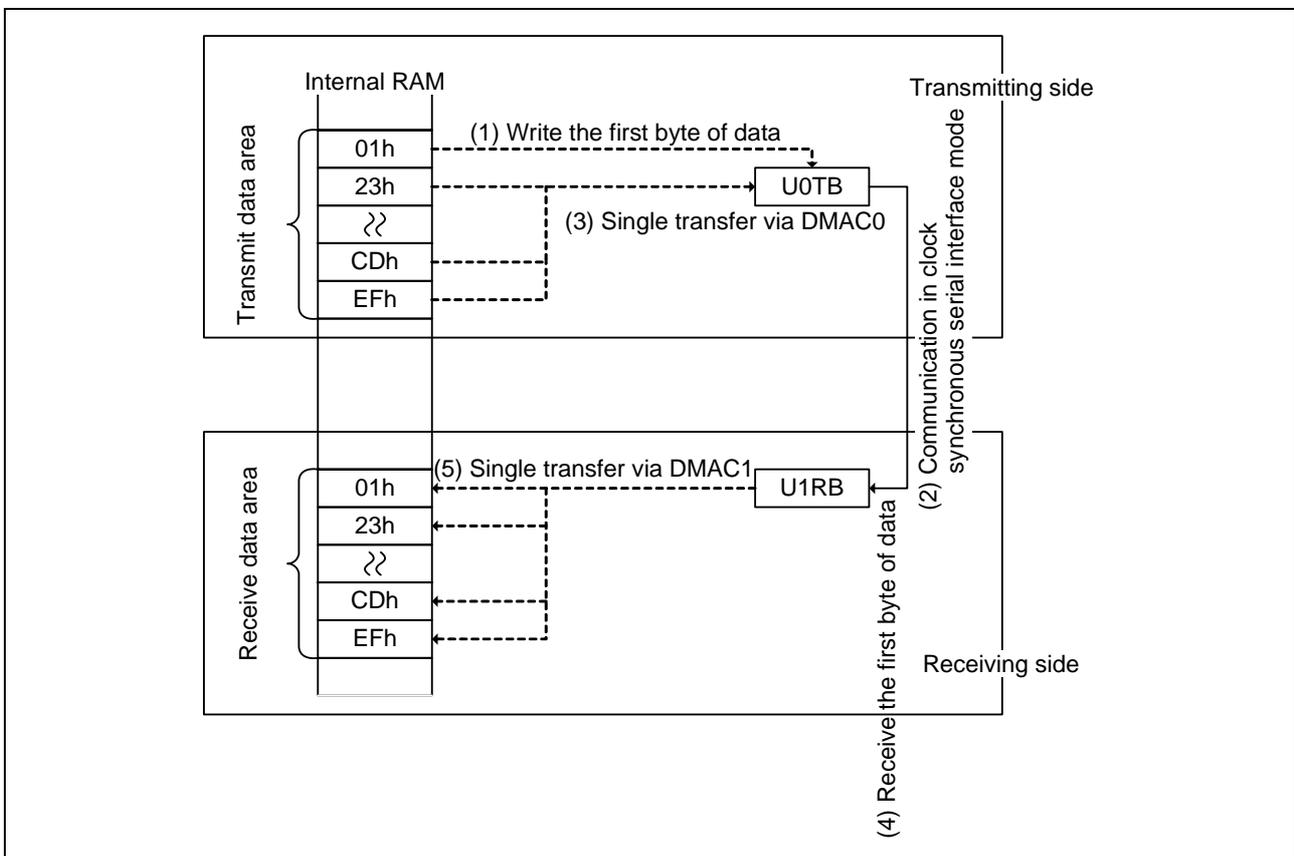

Figure 3.2 DMAC and UART Operation
In this example, DMAC and UART are used to transfer 8 bytes of data (see **Figure 3.2**). Numbers in parenthesis ((1) to (5)) indicate the order of the data transfer.
- (1) Write the first byte of data to be transmitted to the UART0 transmit buffer register.
- (2) Data written to the UART0 transmit buffer register is transmitted in clock synchronous serial interface mode through the TXD0 pin. When the first bit of data is transmitted, a UART0 transmit interrupt request is generated.
- (3) When a UART0 transmit interrupt request is generated, DMA0 reads the transmit data in the internal RAM address (specified by the DMA0 source address register), and writes it to the UART0 transmit buffer register (specified by the DMA0 destination address register). At the same time, the value in the DMA0 source address register is incremented, and the value in the DMA0 terminal count register is decremented.
- (4) When 1 byte of data is received through the RXD1 pin (in clock synchronous serial interface mode), a UART1 receive interrupt request is generated.
- (5) When a UART1 receive interrupt request is generated, DMA1 reads the received data in the UART1 receive buffer register (specified by the DMA1 source address register), and writes it to the internal RAM address (specified by the DMA1 destination address register). At the same time, the value in the DMA1 destination address register is incremented, and the value in the DMA1 terminal count register is decremented.